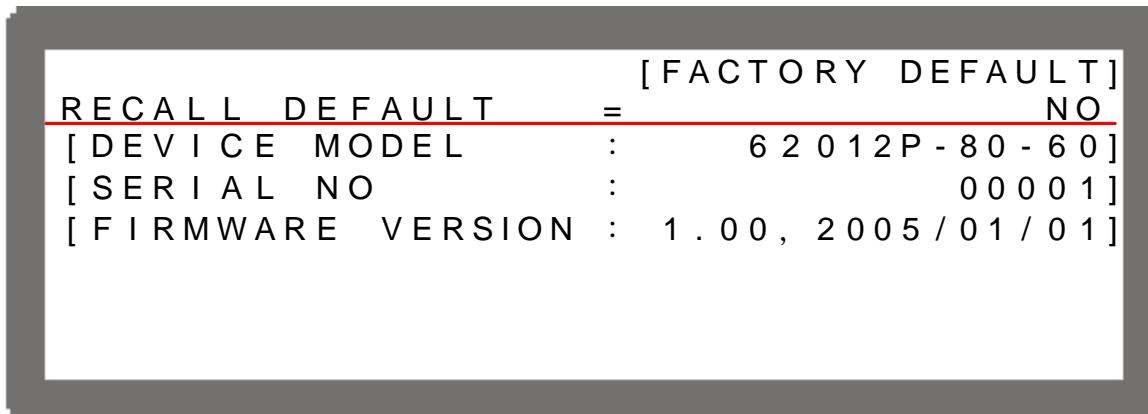

Figure 3-95
1. In Config Setup page, press “” to show Figure 3-95.